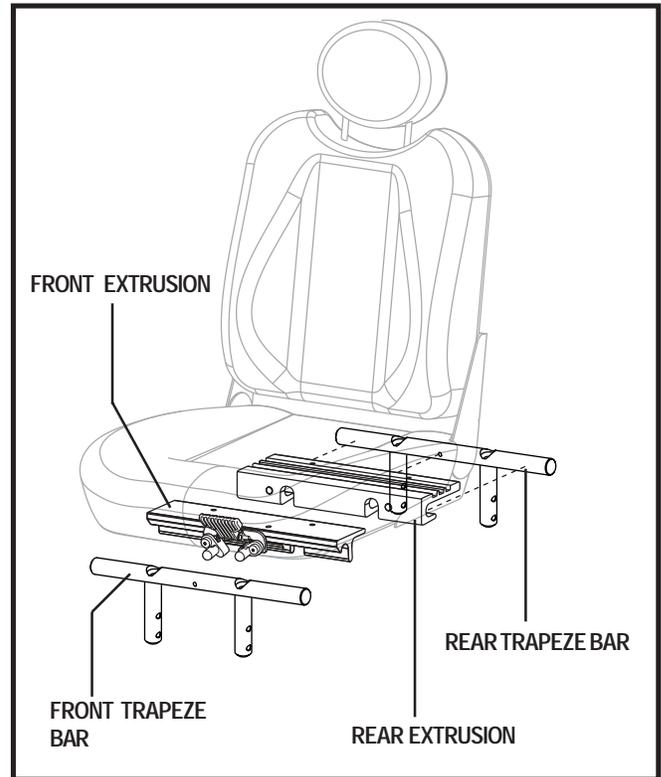

Figure 11. Universal Mounting System (UMS)
2. Tilt the seat back and slide the rear extrusion onto the power seat frame or rear trapeze bar. See figure 11.